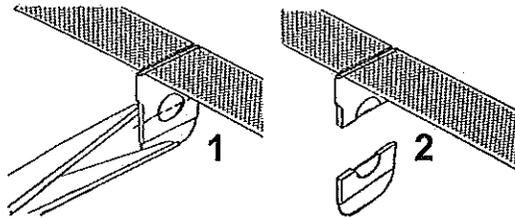

Figure 4: Tension Mesh/Sleeve Removal
- Grasp the blue centering tab and cut the tab through the center of the punch hole (see Figure 4) ensuring that both halves of the blue tab are completely removed from the vaginal canal.